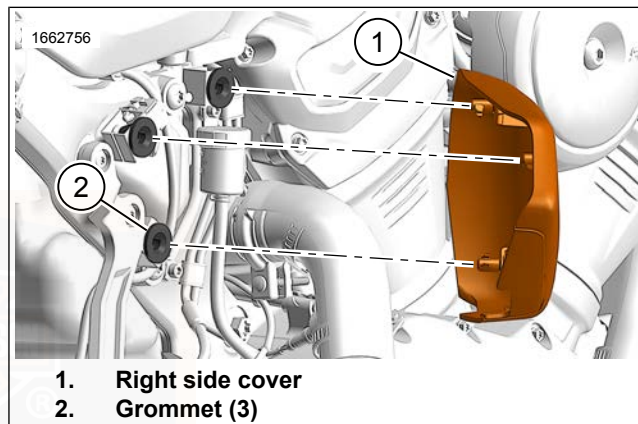

Figure 84. Right Side Cover (RH975)
1. See Figure 84. Pull right side cover (1) away from vehicle.
1. See Figure 84. Verify grommets (2) are in place on frame.
2. Place right side cover (1) in position.